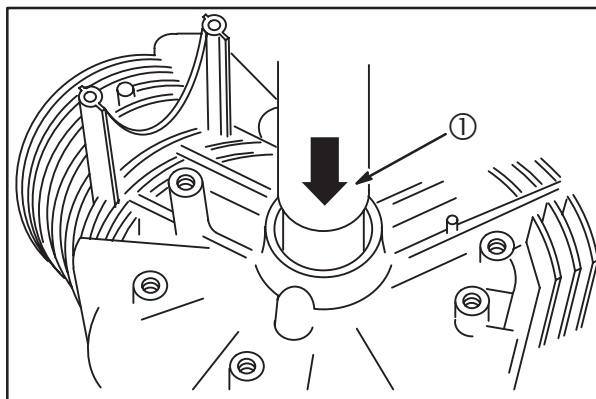

Fig. 7
5. Press out bearing with bushing driver (1), **Fig. 7**.
1. Place cylinder on Cylinder Support #19227 with large opening facing bearing, **Fig. 7**.
3. Press in new bearing to correct depth with bushing driver (1).